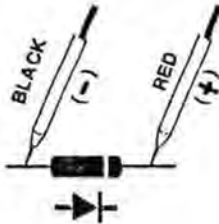

Fig. 3
- b. When connected as shown in Fig. 3, a reverse check on the diode is made. If the diode under test is good, "OL" will be displayed. If the diode under test is defective, "0.000" or other numbers will be displayed. Proper diode testing should include both steps a. and b. above.